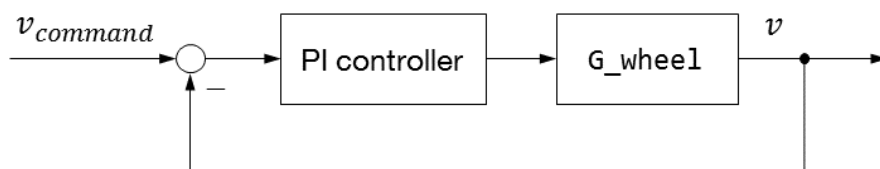

Figure 5-3: Block diagram of the closed wheel speed control loop
- (1) Create a continuous-time transfer function from  $u$  to  $v$ , called `G_wheel` in MATLAB.
- (2) Design a PI controller for `G_wheel` (see Figure 5-3) with a **bandwidth** of 9 rad/s and a phase margin of  $90^\circ$ . Note down the resulting controller gains!